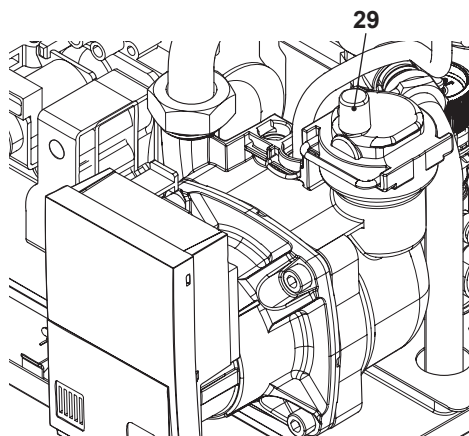

Fig. 9.11
- To make draining easier, unscrew the plug 29 of the automatic relief valve in Fig. 9.11.